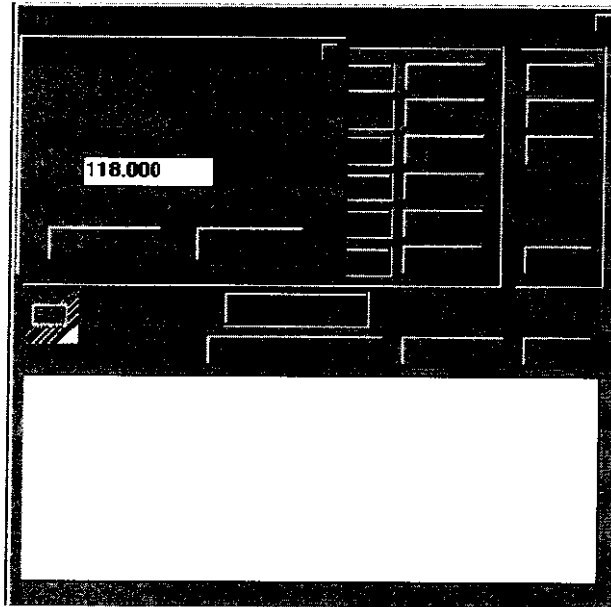

Fig 11 Setting Radio's Operating Frequency
- Check that the Change Frequency screen is superimposed (see Fig 11).
- Using the mouse, click in the box showing the current frequency (Fig 11 shows 118.000 MHz). Delete the current numbers and enter the required frequency from the PC's keyboard.